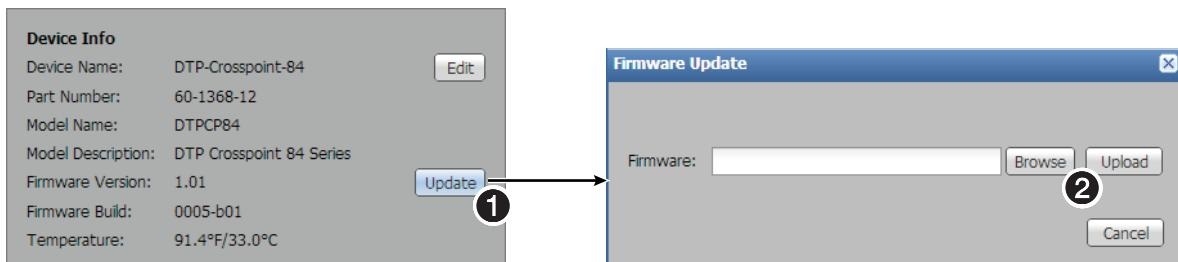

Figure 79. Firmware Update Dialog Box
Click the **Update** button in the Device Info panel (see figure 79) to open the Firmware Update dialog box. The dialog box provides a way to replace the firmware that is coded in the switcher without removing it from the system.
4. Click **Update** in the Device Info panel (see figure 79, 1). The Firmware Upgrade dialog box opens.